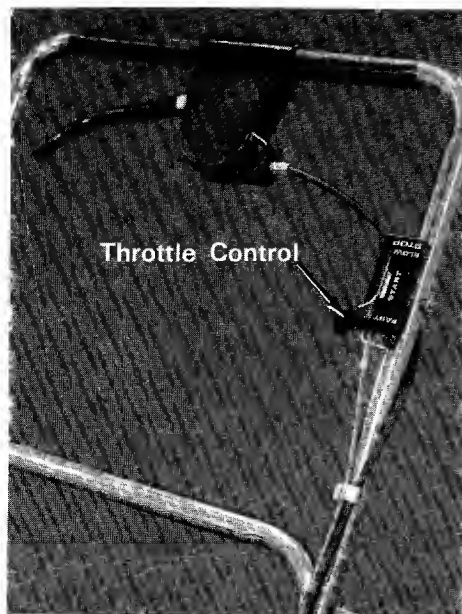

Figure 10
Your engine has an automatic choke. The throttle control is used to regulate the engine speed and stop the engine. The engine can be started with the throttle control lever anywhere in the START position. Move the throttle control to the STOP position to stop the engine. (See figure 10.)
- 5 Lubricate all lubrication points indicated in figures 10 to 13, then wipe the entire machine with an oiled rag in order to protect the surfaces.